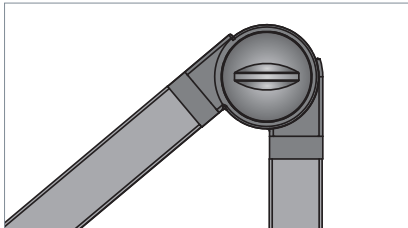

Fig. 3: Pivot and pivot screw.
- ▶ For luminaires fitted with pivots: Tighten each pivot screw until the luminaire is fixed in the desired position, see Fig. 3.